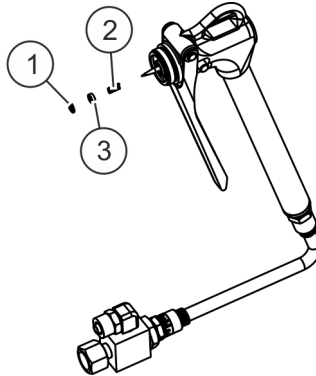

Fig. 9: Changing the needle seal
3. ➔ Carefully pull the spring (Fig. 9/2), disc (Fig. 9/1) and needle seal out of the main element using a wire hook.